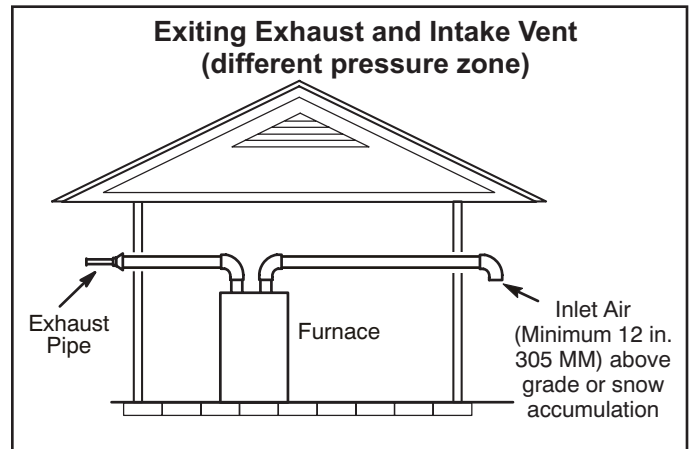
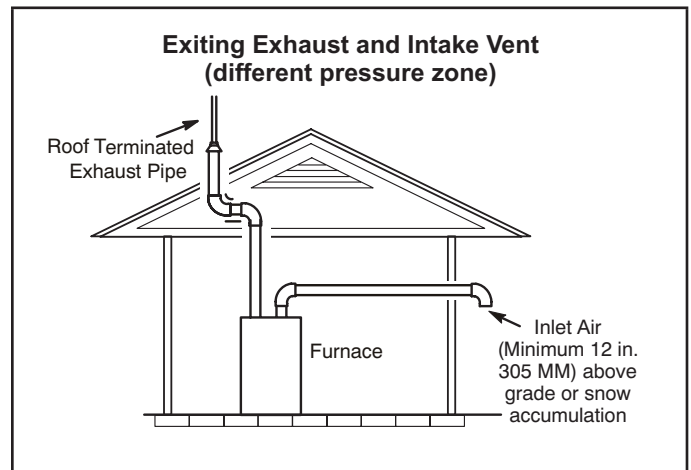

FIGURE 36
FIGURE 37
- 1 - Intake and exhaust terminations are not required to be in the same pressure zone. You may exit the intake on one side of the structure and the exhaust on another side (FIGURE 36). You may exit the exhaust out the roof and the intake out the side of the structure (FIGURE 37).